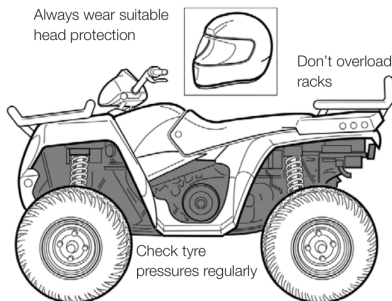

Figure 1 Example of a sit- astride ATV
- **Sit- astride ATVs:** Any motorised vehicle designed to travel on four low-pressure tyres on unpaved surfaces, with a seat designed to be straddled by the operator and with handlebars for steering control (see Figure 1). These vehicles are intended to be used by a single operator without a passenger. They may also be referred to as quad bikes.